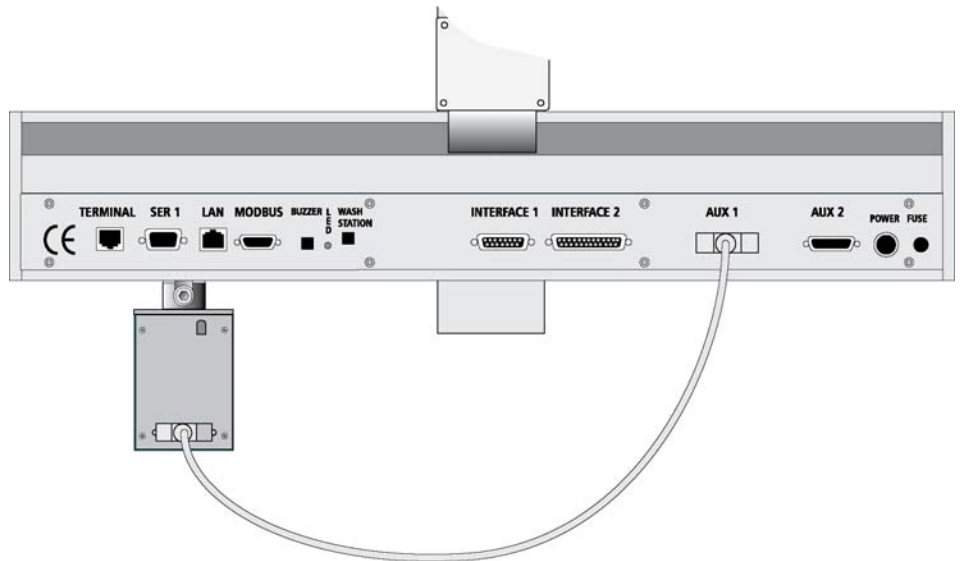

Figure 30 Electrical Connection, DLW Option on a PAL
- 1 The schematic in Figure 30 on page 83 shows an installation with the valve drive connected to the 'AUX' interface. If a serial or multiposition valve drive is used, see the schematics for 2- or 4-injection valve combinations.